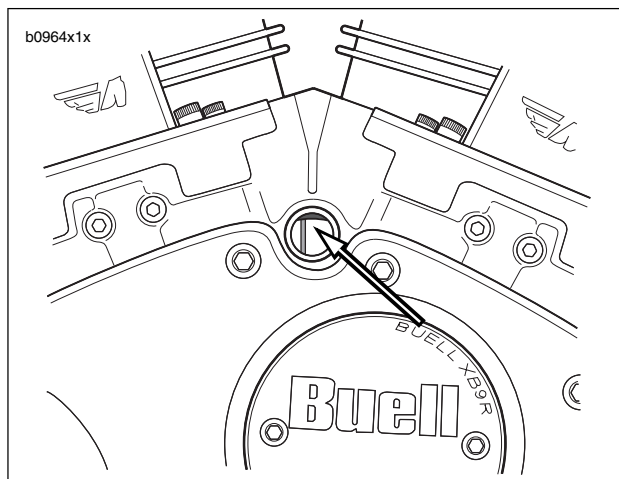

Figure 1-51. Advanced Timing
2. See Figure 1-51. If timing is advanced (mark appears on left side of window) rotate timing plate counterclockwise.